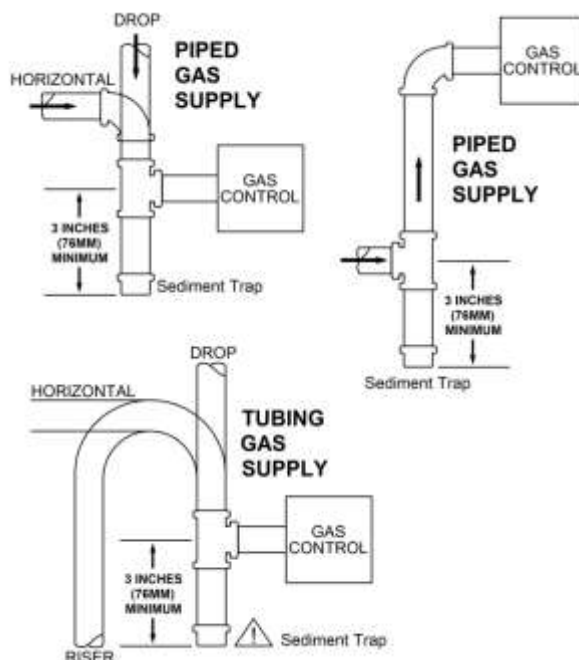

Figure 17 – Sample Gas Supply Sediment Traps
NFPA Code and Hearthstone require the use of a dedicated sediment trap just upstream of the unit. Damage to the valve, or other components due to the lack of a sediment trap are not covered by warranty (see figure 17).
- Install the sediment trap (where required) in the gas supply line to prevent contamination of the gas valve (see figure 17).